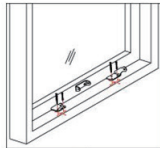

Figure3
- To determine the position of a chain's fixed frame according to the location of the mounting bracket, keep the chain and fenestration vertical, each bracket is fixed with three of the $\Phi 5*25$ mm pan head tapping screws, as shown in Figure 3.